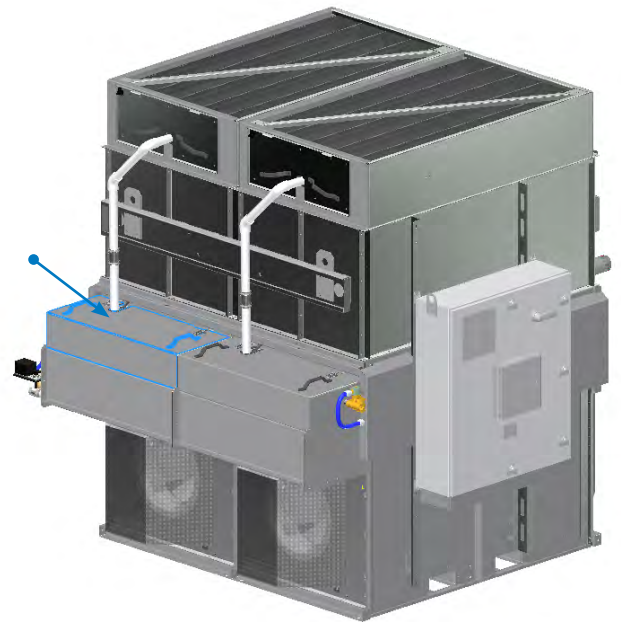

Figure 13. Location of Pump Wire
3. Remove the basin cover, then find pump wire stored within the basin. See **Figure 13** on page 14.